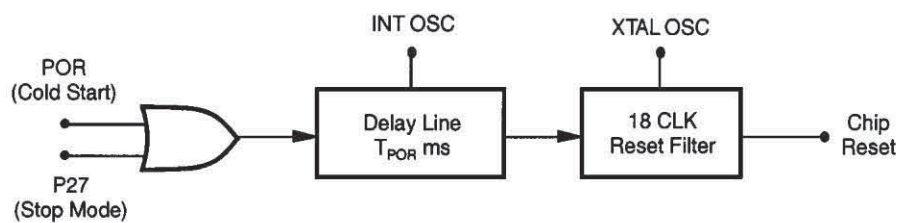

Figure 10. Internal Reset Configuration
**RESET.** This function is accomplished by means of a Power-On Reset or a Watch-Dog Timer Reset. Upon power-up, the Power-On Reset circuit waits for  $T_{POR}$  ms, plus 18 clock cycles, then starts program execution at address 000C (Hex) (Figure 10). The control registers' reset values are shown in Table 3.